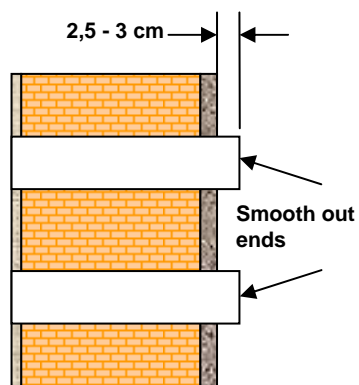

Abb. 1
1. Cut the ventilation pipes to an excess length of 2,5 – 3,0cm. Smooth out the ends on the outside, in order to avoid damages to the sealing tape of the grille. (Abb. 1).